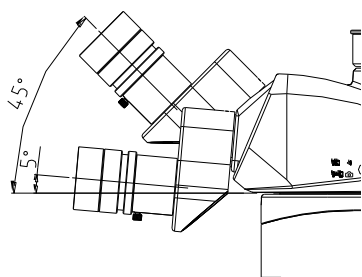

Fig. 18
- 2) Use both hands to hold the binocular components, to move it up or down to the position required. (See Fig. 18)